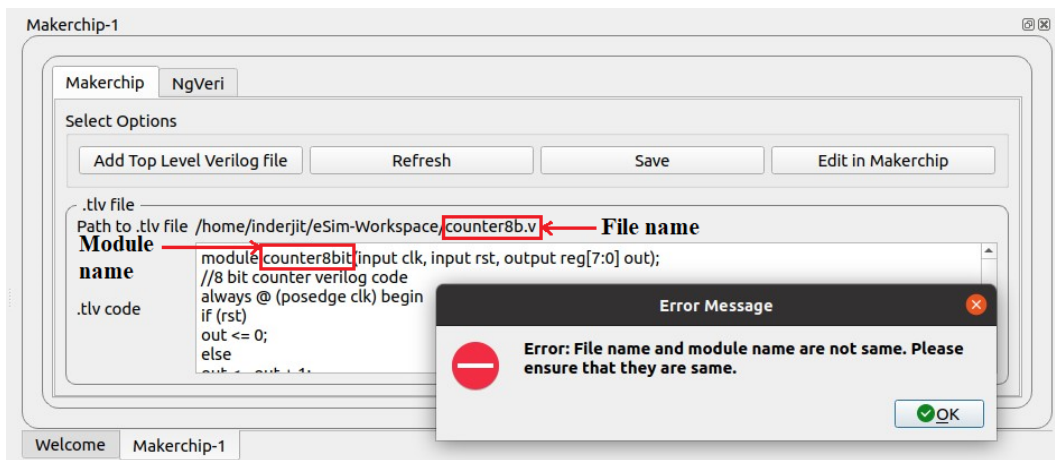

Figure 11.45: Verilog file and module name error
7. Verilog filename should be the same as top-level verilog module name, otherwise the following error message will appear as shown in Fig. 11.45. This error appears when a user tries to open TL verilog in Makerchip by clicking **Edit in Makerchip** button.